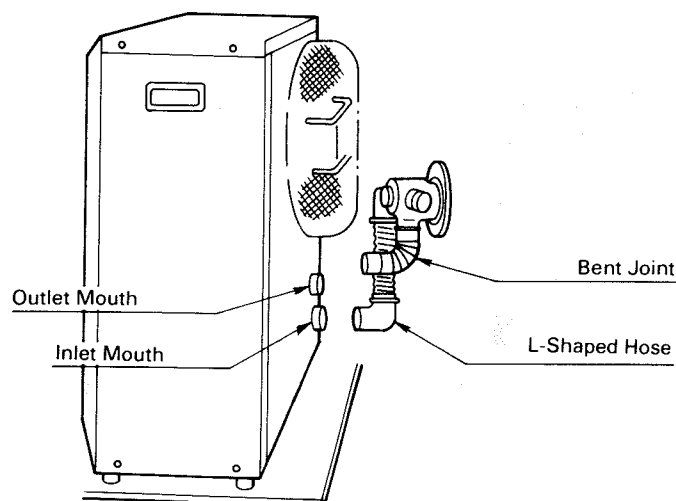

Fig 12
8. Move the heater into position. Connect the bent joint to the exhaust outlet mouth (upper opening) and attach the L-shaped hose to the intake inlet mouth. Make sure all connections are tight (See Fig. 12).